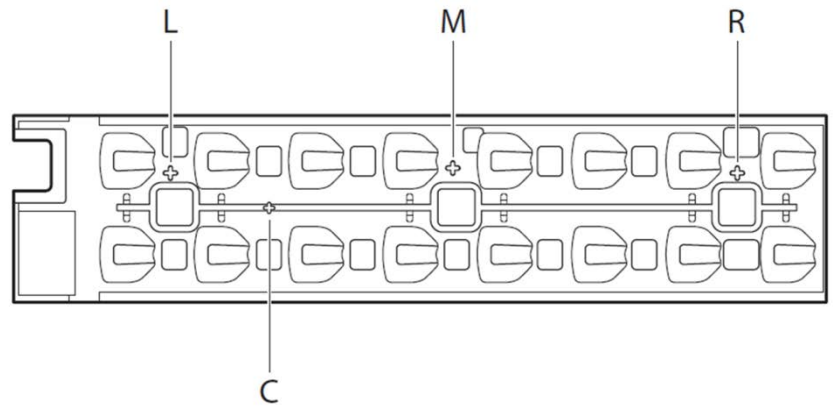

Figure 47. Lens grippers on the FastFlex lens
The lens grippers ensure alignment of the lens plate with the LED Board and enable pre-assembly. There are three (3) grippers on the base of the lens plate: one middle pin (M) and two outer pins (L, R), Figure 47. The pins align the lens plate in 2 different directions. Note that the central pin (C) serves does not support pre-assembly.